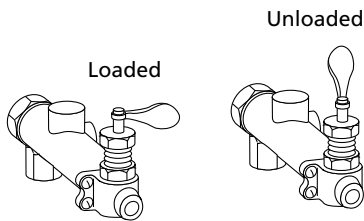

Figure 4 - Control valve
2. Before starting the compressor, always put toggle lever in unload position (See Figure 4).
2. Start compressor and allow pressure to reach proper limit of control valve (See Figure 4) which is set at 175 psi. At this point, the compressor should unload through the breather bushing on control valve and the engine should idle down.